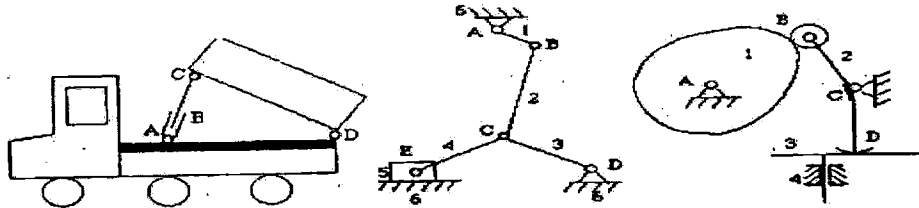

Fig.1
11. (a) (i) What is kinematic inversion? Explain the four different inversions of slider crank mechanism. (10)
(ii) Determine the degree of freedom for following linkages. (Fig.1) (6)